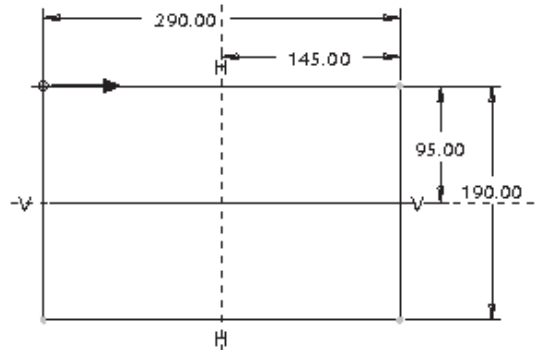

Figure 8-112 First rectangular section with dimensions
- b. Create the sketch for the first section of the blend feature, refer to Figures 8-112.
1. Draw the sketch of the rectangular section and then add constraints and dimensions to it, as shown in Figure 8-112.